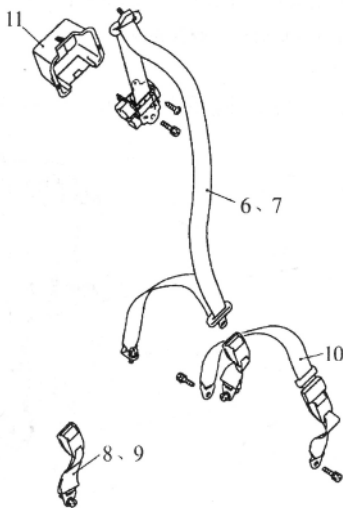

Fig.18-29
- ① Open the cover of safety belt upper fixing point up and remove the bolt and disassembly the upper belt.
- ② Disassembles the center pillar upper trim.
- ③ Take down the two M12 inch bolts, which are used to fix slide of safety belt to disassembly slide of safety belt.
- ④ Take down the M12 inch bolts, which are used to fix belt on lower point from the center pillar trim, disassembly the center pillar lower trim
- ⑤ Take down the tapping screws and M12 inch bolts, which are used to fix front retractor upper point, remove the retractor.
- ⑥ Take down the M12 inch bolts, which are used to fix anchor on front seat, remove the anchor, take off the terminal on the anchor under the seat.(it only for driver's seat.)
- 3) Rear safety belt asm(see figure18-29)